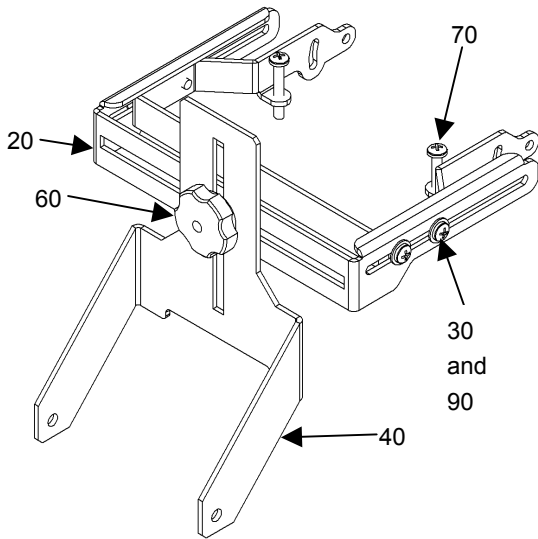
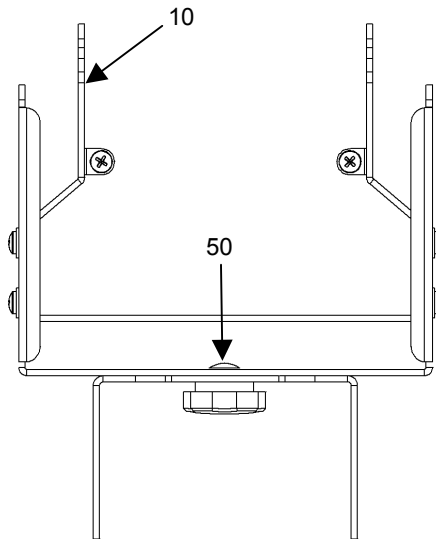

Figure 1. PAN-1 Lens Support
Figure 2. PAN-1 Lens Support (Top View)
3. Carefully inspect all components for damage. See Table 1, Figure 1, and Figure 2 for details.